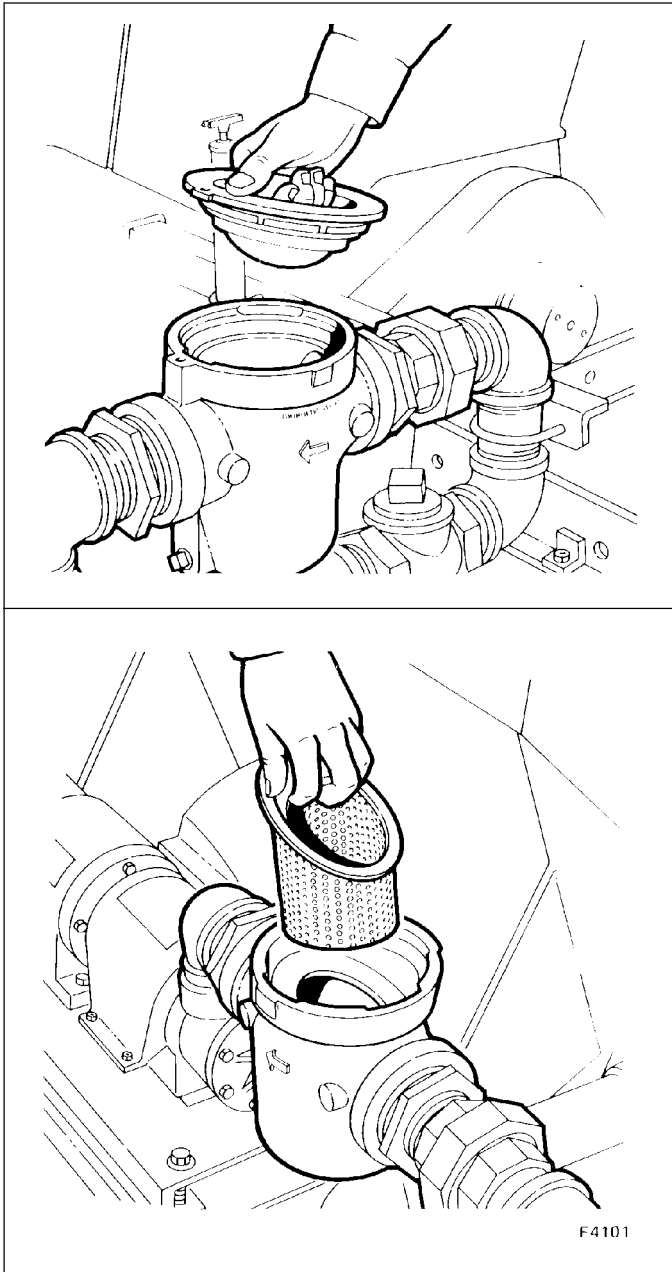

Figure 10-58. Servicing the Hoist Gear Case Strainer
3. Refer to Figure 10-58 and service the strainer as follows: